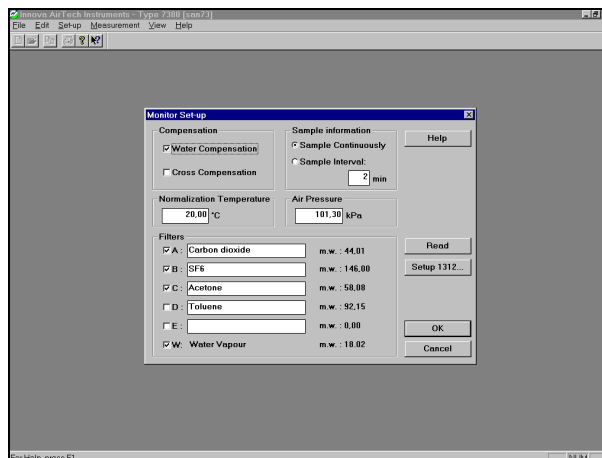

Fig. 4.5 The Monitor Set-up dialogue
1. Pull down the **Set-up** menu. Click on **Monitor**. The Monitor Set-up dialogue will be displayed, Fig.4.5.